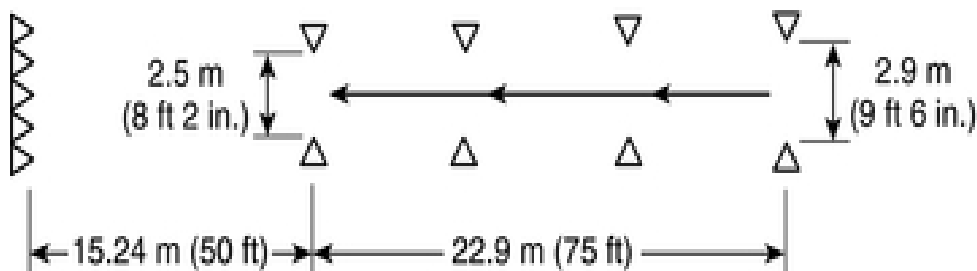

FIGURE A.4.3.5 Diminishing Clearance Exercise.
A.4.3.5 The diminishing clearance exercise can be used as practice for meeting or in the evaluation of this requirement. This exercise measures a driver's ability to steer the apparatus in a straight line, to judge distances from wheel to object, and to stop at a finish line. The speed at which a driver should operate the apparatus is optional, but it should be great enough to necessitate quick judgment. This exercise is to be performed both forward and in reverse with a spotter. The course for this exercise is created by arranging two rows of markers to form a lane 22.9 m (75 ft) long. The lane varies in width from 2.9 m (9 ft 6 in.) to a diminishing clearance of 2.5 m (8 ft 2 in.). The driver should maneuver the apparatus through this lane without touching the markers. The vehicle should be stopped at a finish line 15.24 m (50 ft) beyond the last marker. No portion of the vehicle should protrude beyond this line. Vertical clearance judgment should be evaluated using a prop with a crossbar that is adjustable, based on the vehicle height. During the evaluation, the driver should drive forward and back through the prop with the crossbar at several differing heights, including one that is lower than the top of the vehicle. The prop should not be struck. The intent of the vertical clearance judgment is for proper identification of the furthestmost point in the form of the apparatus. In situations where the apparatus is gaining entry to roadways or limited-height areas, the driver/operator must allow appropriate space ahead of the apparatus in order to avoid striking objects or to avoid extending apparatus into traffic lanes. (See Figure A.4.3.5.)